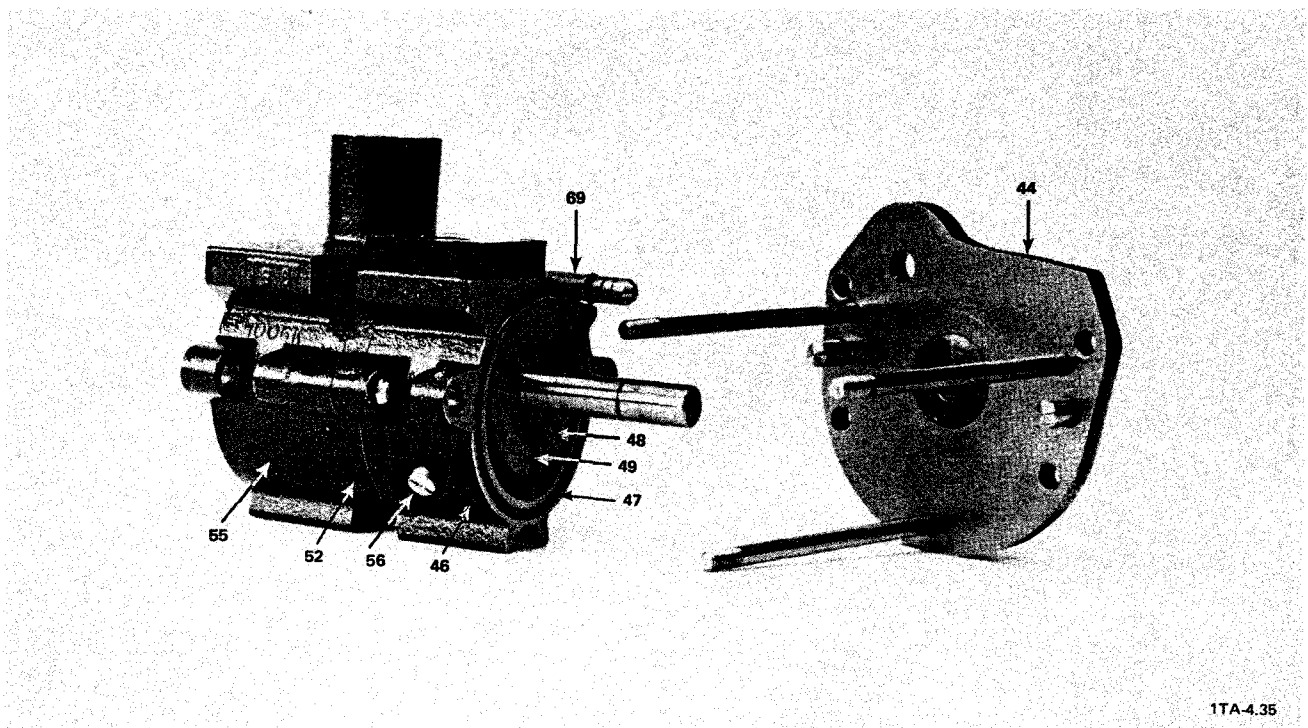

Figure 5-8. Second Stage Pump Cylinder (D2A Pump Model Shown)
- C-13 Remove the front end plate (44) from the motor side of the shaft (see Figure 5-8).
- C-15 Remove the second stage pump cylinder (46) to expose the second stage rotor (48). Remove the O-rings (47) from both sides of this cylinder (see Figure 5-8).
- C-16 Repeat Step C-11, except remove the vanes (49) from the second stage rotor (48). (See Figure 5-8).
NOTE: For use during reassembly, the ends of the threaded studs (62) that have the shorter threaded section screw into the front end plate (44) (see Figure 5-8). During reassembly, the threaded studs should be screwed until they are tight in the front end plate.
- D-10 Repeat Step D-8, except remove the shaft seal (45) from the front end plate (44).
- a. The ends of each rotor (48/54) may be wearing against the inside surface of the front (44) and rear (60) end plates or against the center bearing (52). Inspect these surfaces for gouges and wear (see Figure 5-8). If you observe scoring or wear, proceed as follows:
- (1) Replace the plate that is scored.
- (2) Check the rotors for burrs. If burrs are found, sand or file them smooth.